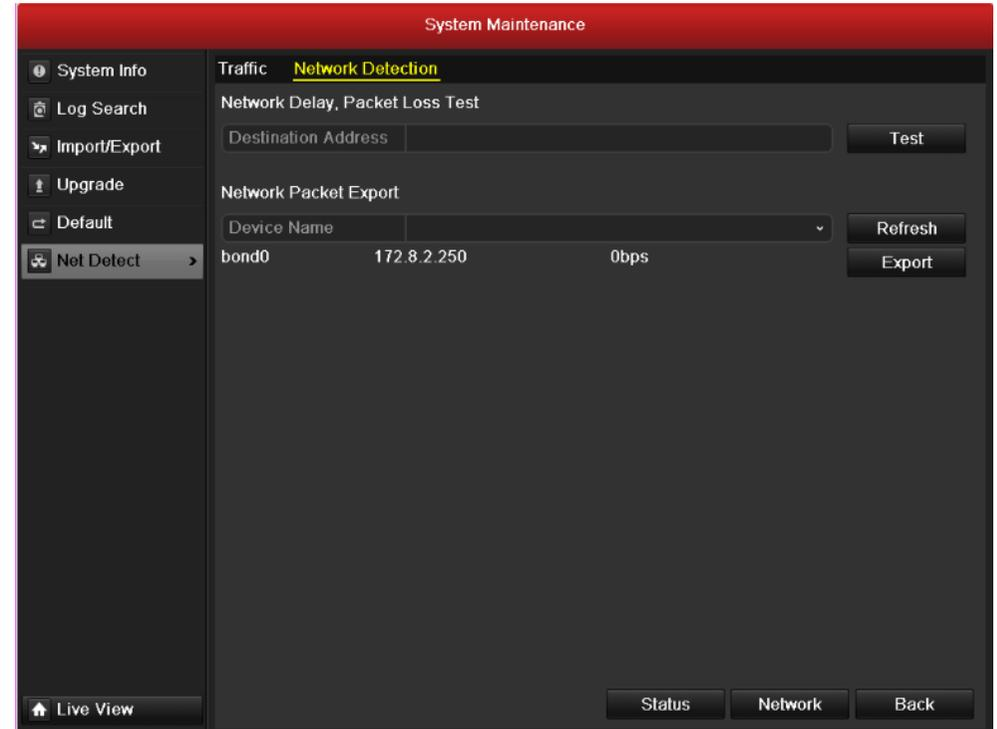

Figure 10.23 Network Detection Interface
2. Click the **Network Detection** tab to enter the Network Detection menu, as shown in Figure 10.23.